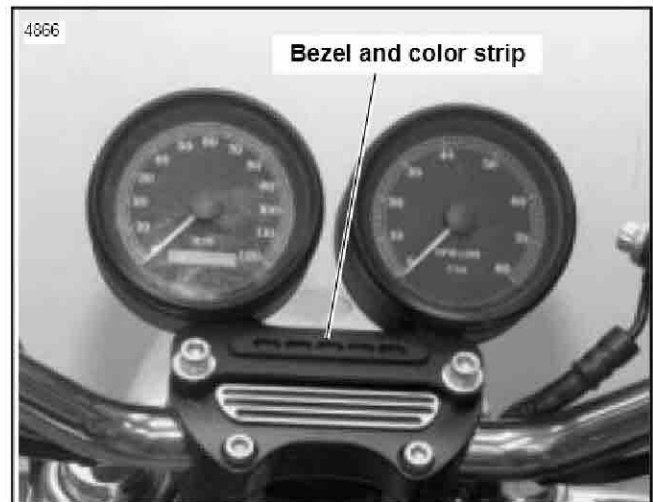

Figure 8. Speedometer/Tachometer Installed
- See Figure 8. Place the indicator light bezel and color strip on front of dual bracket. Make certain color strip stays in position on locating pins.
- See Figure 8. Mount speedometer/tachometer assembly on handlebar clamp as shown using original fasteners. Tighten screws to 12 - 15 ft-lbs.